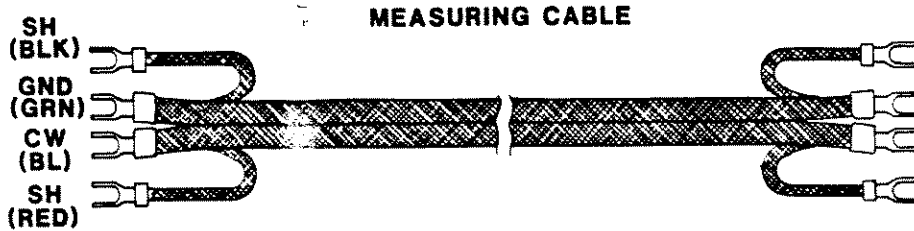

Fig.5-5
A. Disconnect the cable at both ends. Be sure all terminals are standing clear. See Figure 5-5.